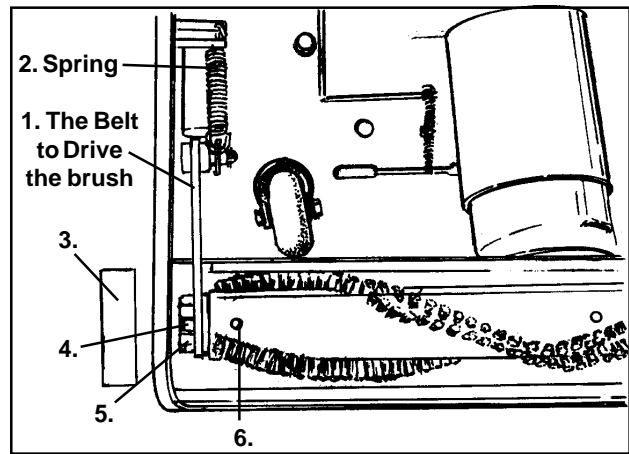

Figure 6
**The belt to drive the brush:** The tension of this belt is controlled by a spring. If necessary, replace the spring and the belt. See figure 6
To rotate the brush shaft, follow this procedure:(See figure 6)
3. Remove the side shoe (3) from the left-handed end of the brush shaft.
4. Loosen the retainer (4) and the spacer (5) on the end of the brush shaft.
6. Tighten the retainer (4).
To change the two halves of the brush, remove the screws (6). Replace the brush section and the screws. See figure 6